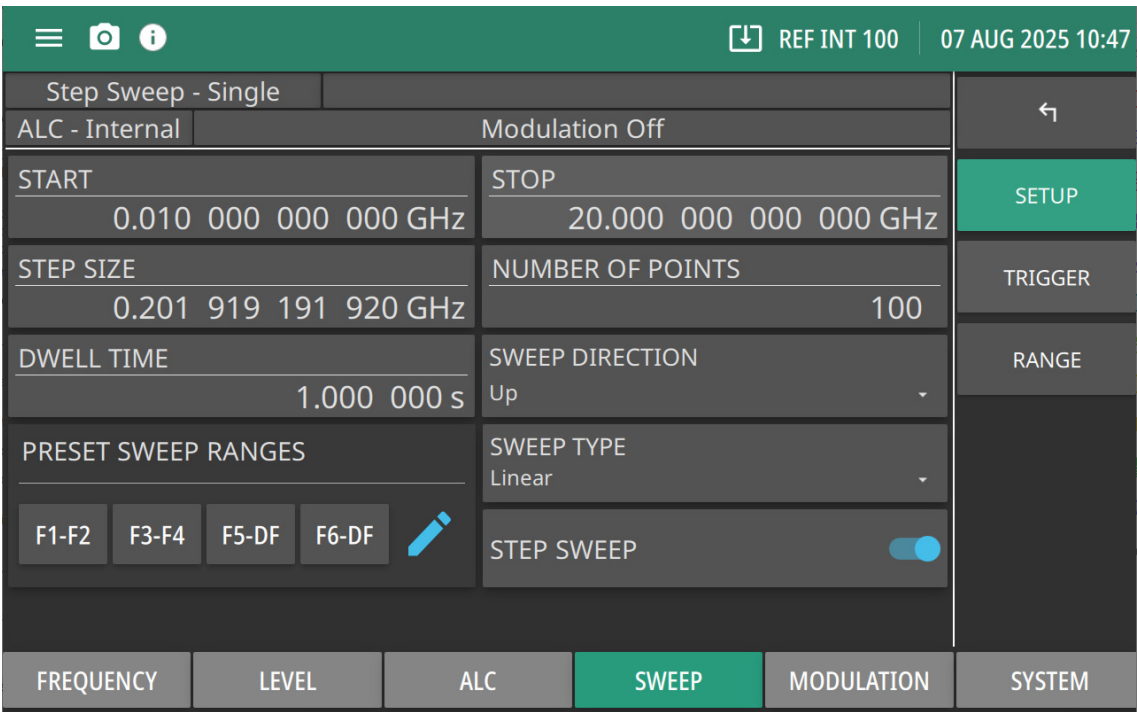

Figure 4-5. Sweep Menu - Step (Setup)
- e. Press SWEEP menu and touch STEP submenu as shown in Figure 4-5.